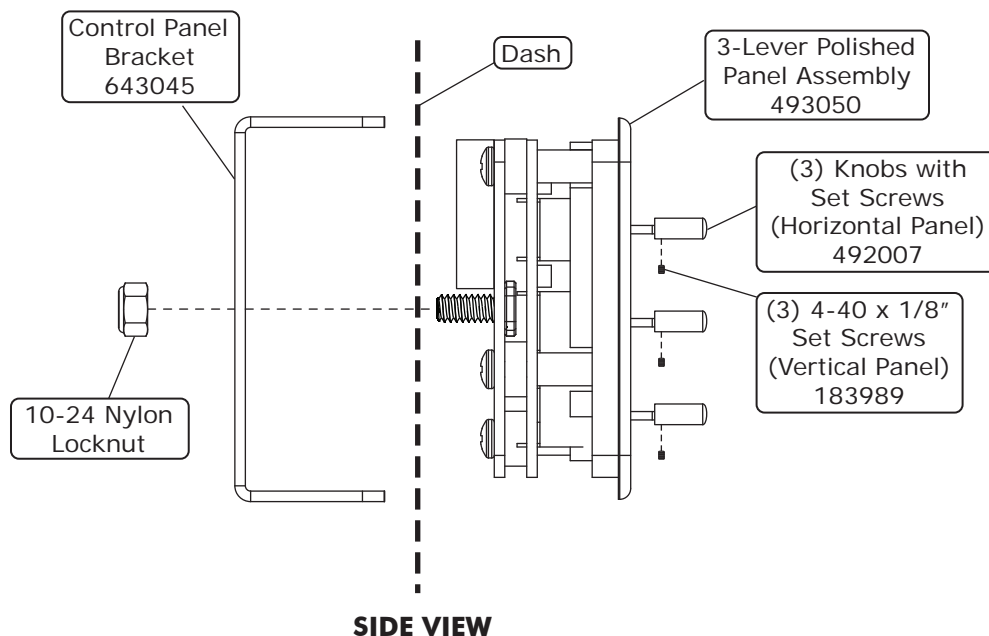

Figure 1
2. Install the (3) knobs onto the 3-lever panel assembly using the set screws as shown in Figure 1, Page 5.
**NOTE: If mounting in vertical configuration, replace black oxide set screw with (3) stainless steel set screws, Part #183989. If mounting in horizontal configuration use set screws included with knobs.**
1. Install the 3-lever panel assembly into the dash by placing the control panel bracket behind the dash and securing it to the 3-lever panel assembly using a 10-24 nylon locknut (See Figure 1, below).